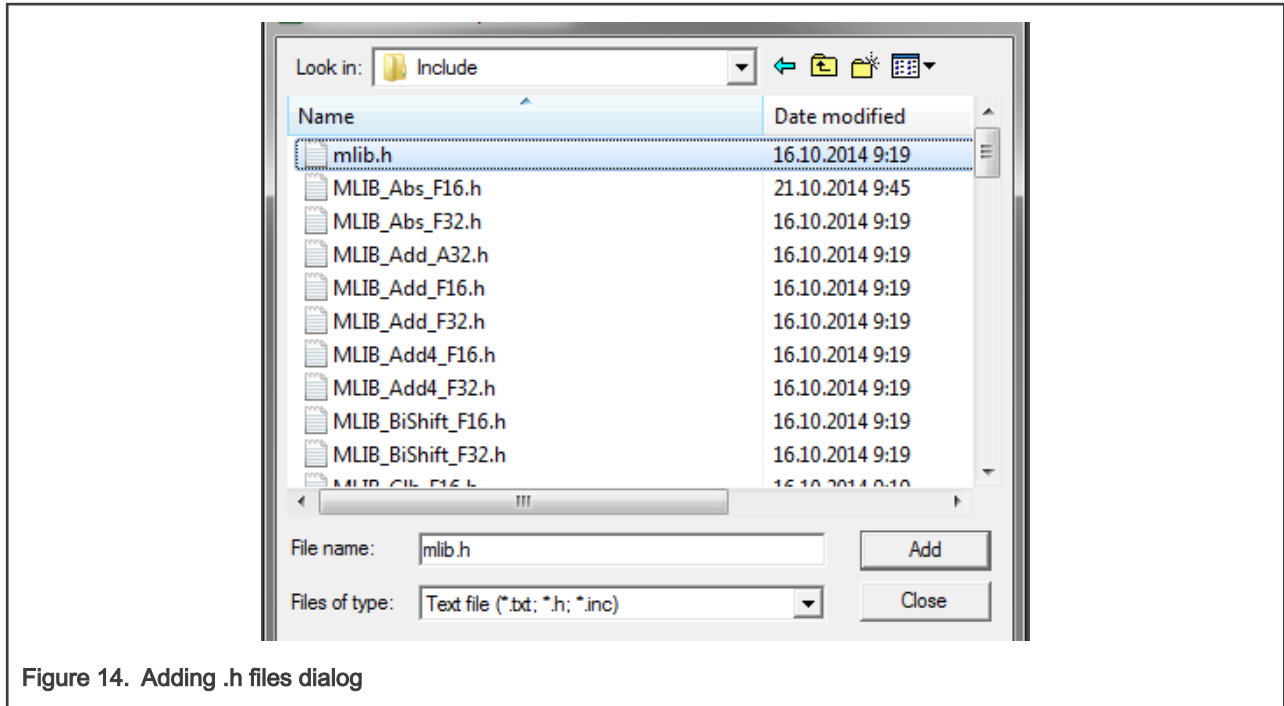

Figure 14. Adding .h files dialog
4. Navigate into the library installation folder C:\NXP\RTCESL\CM7_RTCESL_4.7_KEIL\MLIB\Include, and select the *mlib.h* file. If the file does not appear, set the Files of type filter to Text file. Click Add. See Figure 14.